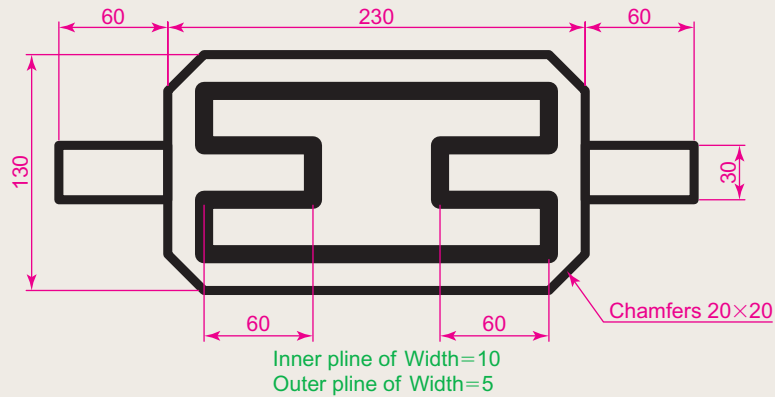

Fig. 3.55 Exercise 11
11. Construct Fig. 3.55 using the **Rectangle**, **Line** and **Edit Polyline** tools.